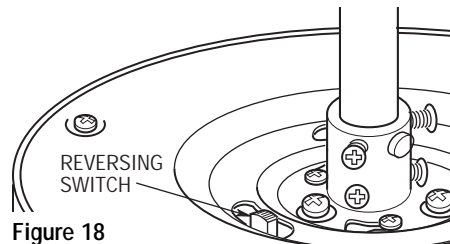

Figure 18
- 6. If airflow is desired in the opposite direction, turn the fan off and wait for the blades to stop turning. Then slide the reversing switch (Figure 18) to the opposite position and turn the fan on again. The blades will turn in the opposite direction and reverse the airflow.